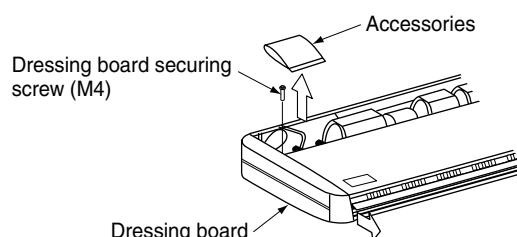

Fig. 5
- Remove the side panel fixing screw 1) and pull to the front direction (arrow direction) to remove. **(Refer to Fig. 5)**